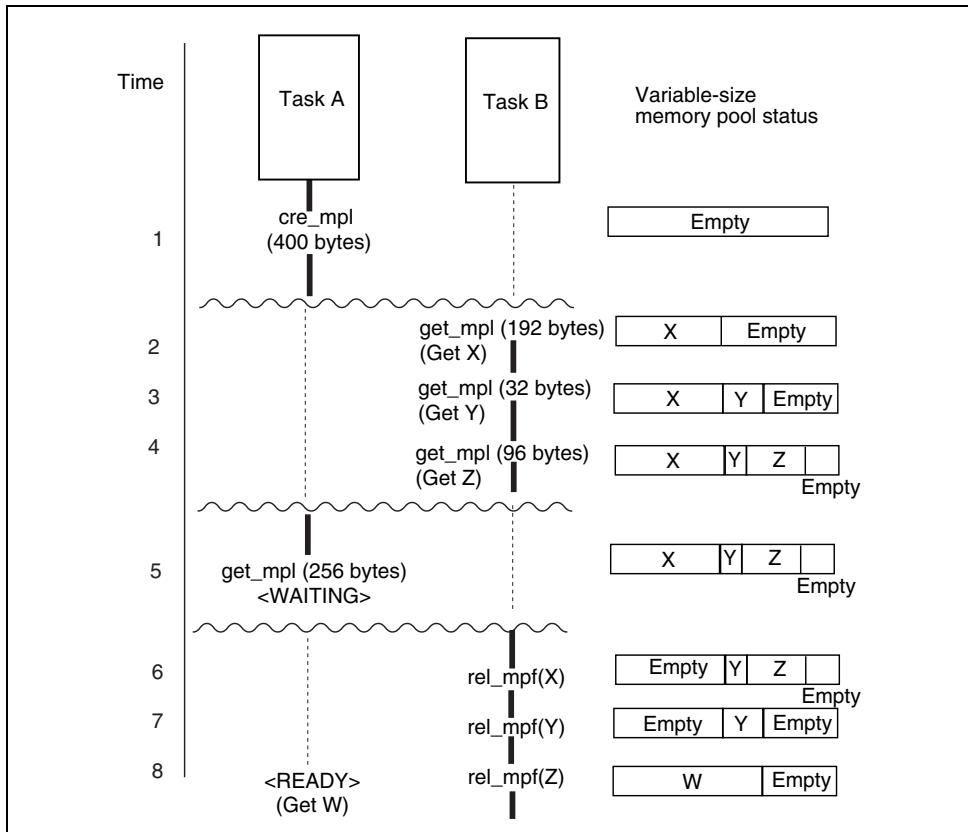

Figure 2.12 Example of Using Variable-Size Memory Pool
Figure 2.12 shows an example of using variable-size memory pool.
2. Task B acquires 192-byte memory block X by issuing `get_mpl`. At this time, the kernel uses 16 bytes in the memory pool. This is not indicated in figure 2.12.